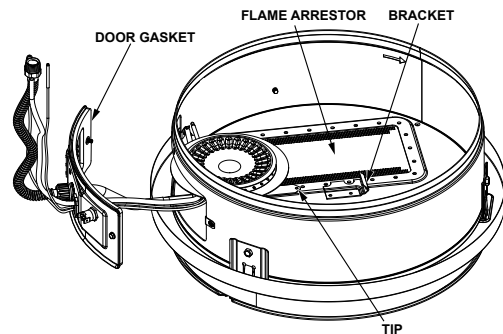

FIGURE 39.
1. At least annually, check the base-ring filter (Figure 39) for any dust or debris that may have accumulated on the filter screen. **NOTE:** If the water heater is located in an area that is subjected to lint and dirt, it may be necessary to check the base-ring filter more frequently.
3. Insert the manifold/burner assembly into the burner compartment, making sure that the tip of the manifold tube engages in the slot of the bracket inside the combustion chamber (Figures 39 & 40).